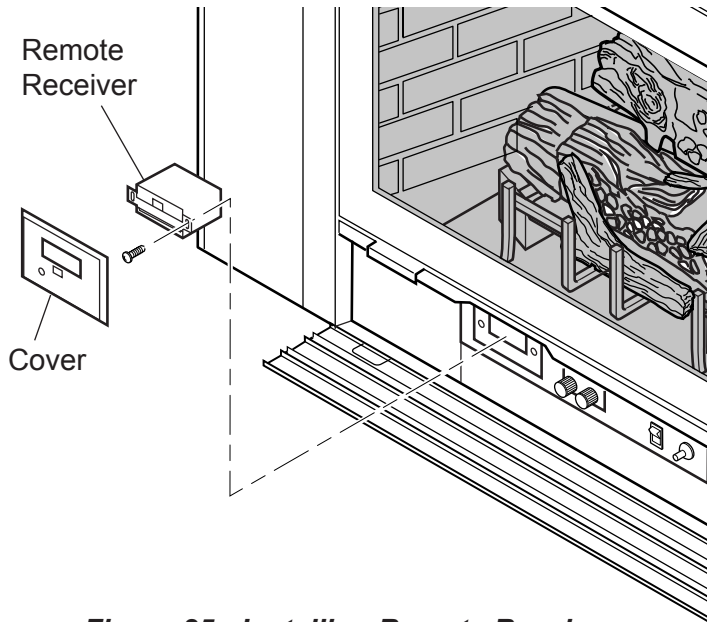

Figure 25 - Installing Remote Receiver
1. Remove cover on control panel to show opening for remote receiver. See Figure 25.
6. Connect the connectors to the two .25" male connectors located on the left side when facing the unit (Figure 25). Do not let the wire touch the grate or burners.
7. Slide remote receiver in the opening of control panel. Use two screws provided to attach remote receiver to the control panel. See Figure 25.
8. Replace Cover. See Figure 25.